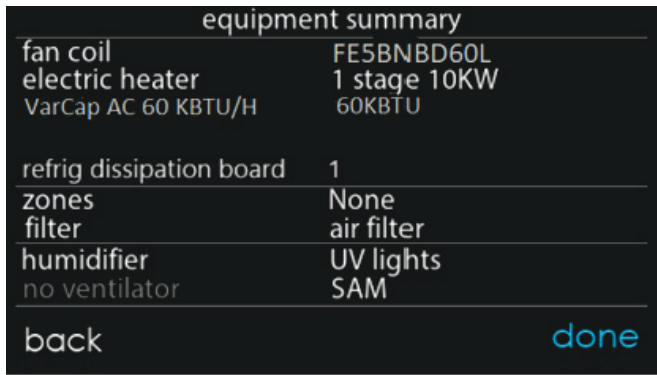

Fig. 10 – Equipment Summary Screen
4. The Evolution™ Connex™ System Control will then advance through the remaining learning processes including the setup of accessories such as filter type, UV light, and humidifier. Upon completion of the setup screens, the equipment summary screen will be presented (Fig. 10). Verify the correct equipment is shown on this screen. Next an airflow verification test is executed before returning to the main screen.